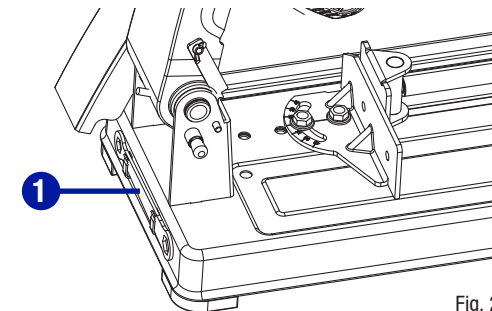

Fig. 20
STORAGE OF THE ARBOUR WRENCH (Fig. 20)
Store the arbour wrench (1) on the rear of the chop saw when not in use, as shown in Fig. 20.